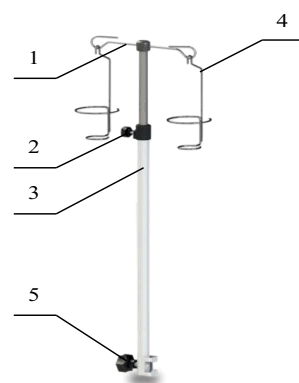

Figure 2. Infusion pole.
2. Infusion pole (infusion stand) (Figure 2). Made of stainless steel, adjustable in height, equipped with two hooks 1 and two standard bottle holders 4. Equipped with a built-in mounting clamp 5 for mounting on the guide rails of the table.
The pole height is adjusted manually using lock 2 (Figure 2). Adjust the height of the pole, and then clamp the lock in the adjusted position.